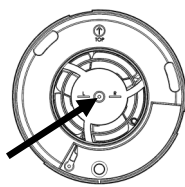

Fig. 5
- Undo the IPX screw in the middle of the IPX cover. Lift the IPX cover off. (Fig. 5)